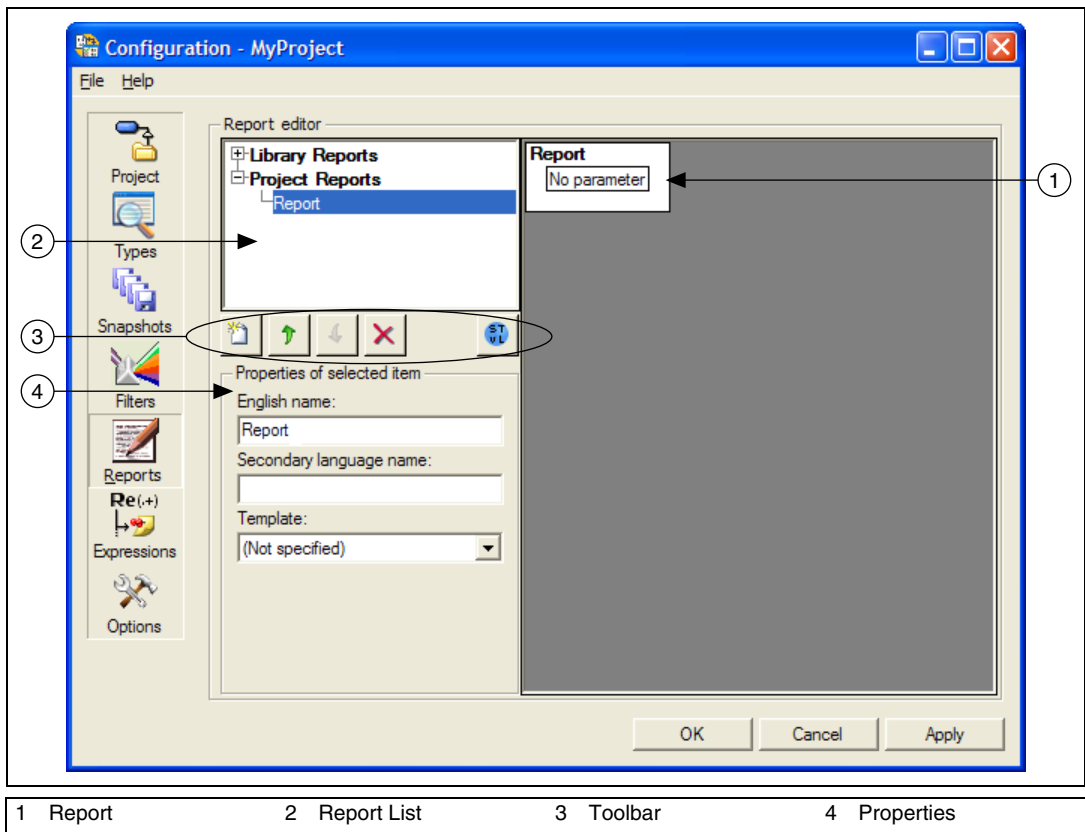

Figure 5-2. Reports Pane of Configuration Dialog Box
2. Click the **New report** button. Requirements Gateway adds a new report to the project as shown in Figure 5-2.